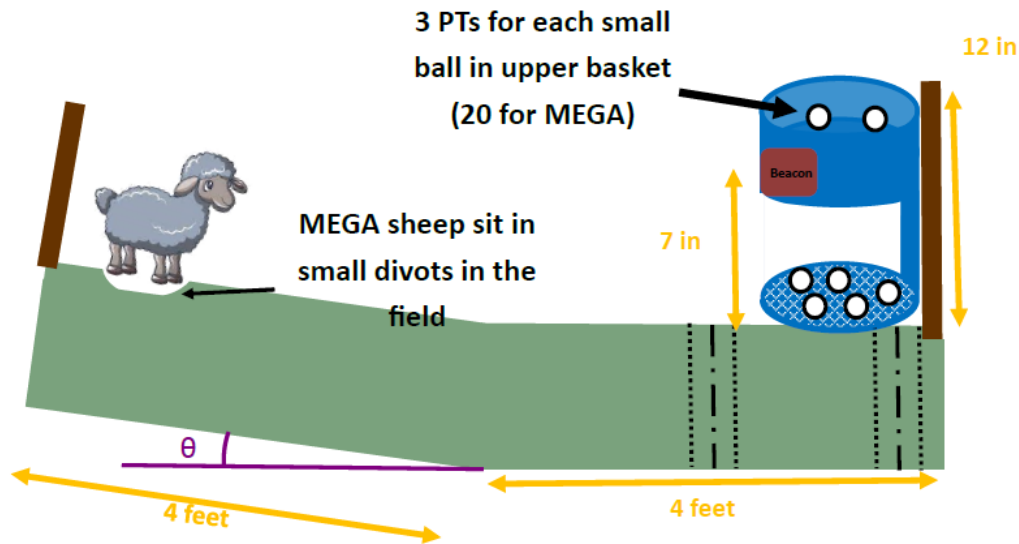

Figure 2: Side view of the field.
- ☐ As seen in Figure 2, half of the field is angled up by an amount  $\theta$  equal to **about**  $5^\circ$ . This may be changed very slightly (either higher or lower).